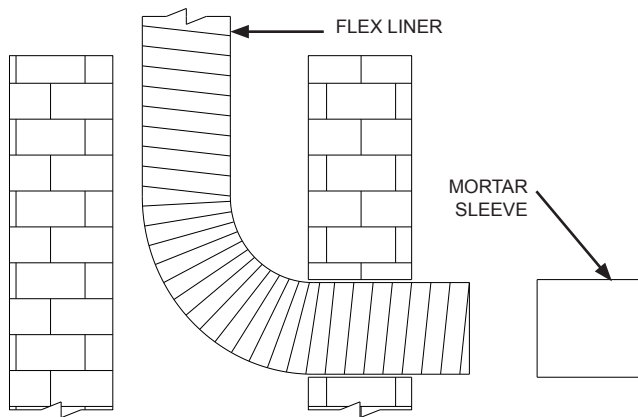

**FIG. 8**
**Step 3:** Remove flex liner from packaging and straighten coiled liner. If liner is to be insulated see **Liner Preparation Instructions**. If liner is not to be insulated, **Spacers will need to be installed every 5 foot (1.5 m) of liner to maintain the 1" (25 mm) clearance required between liner and masonry** (See **FIG. 8**).